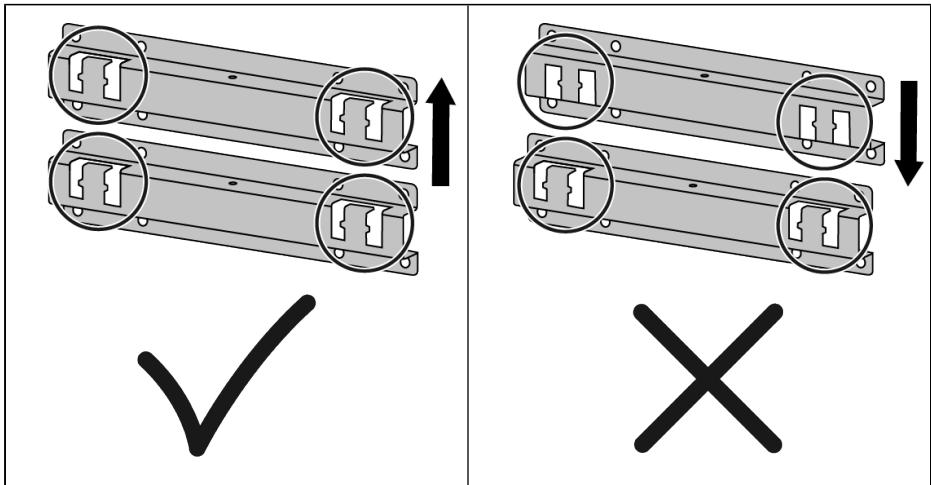
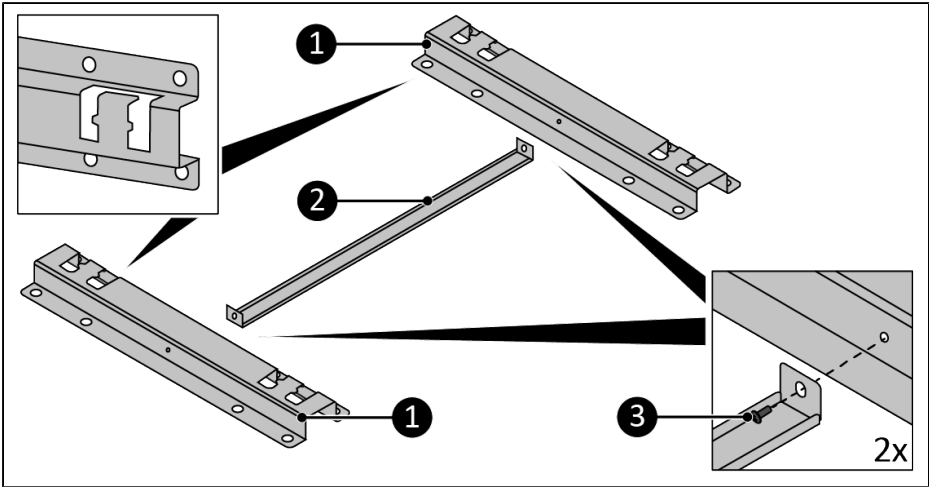

Figure 28.
Figure 29.
Make sure the openings of both brackets point upwards, see Figure 28 and Figure 29 for reference.
1. Mount the distance holder (Figure 29, pos. 2) to the brackets (Figure 29, pos. 1) using the 2 M4 12mm screws (Figure 29, pos. 3).